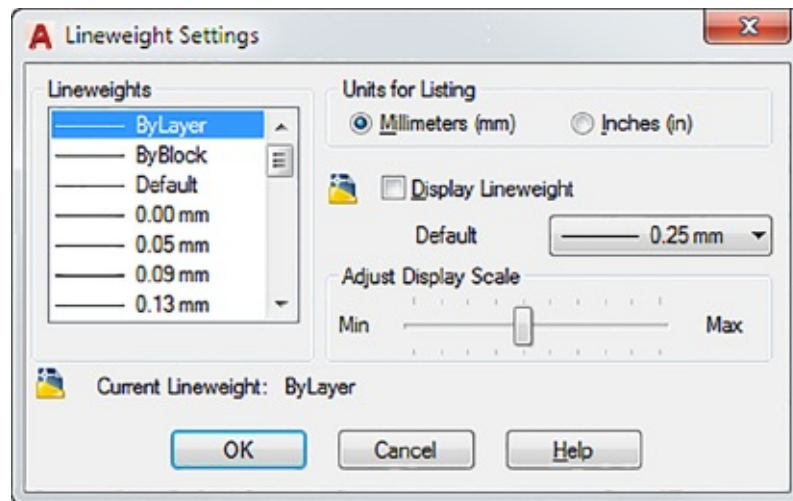

FIGURE 15.21 The Lineweight Settings dialog box
1. Type **LW** ↵ to open the Lineweight Settings dialog box (see Figure 15.21).